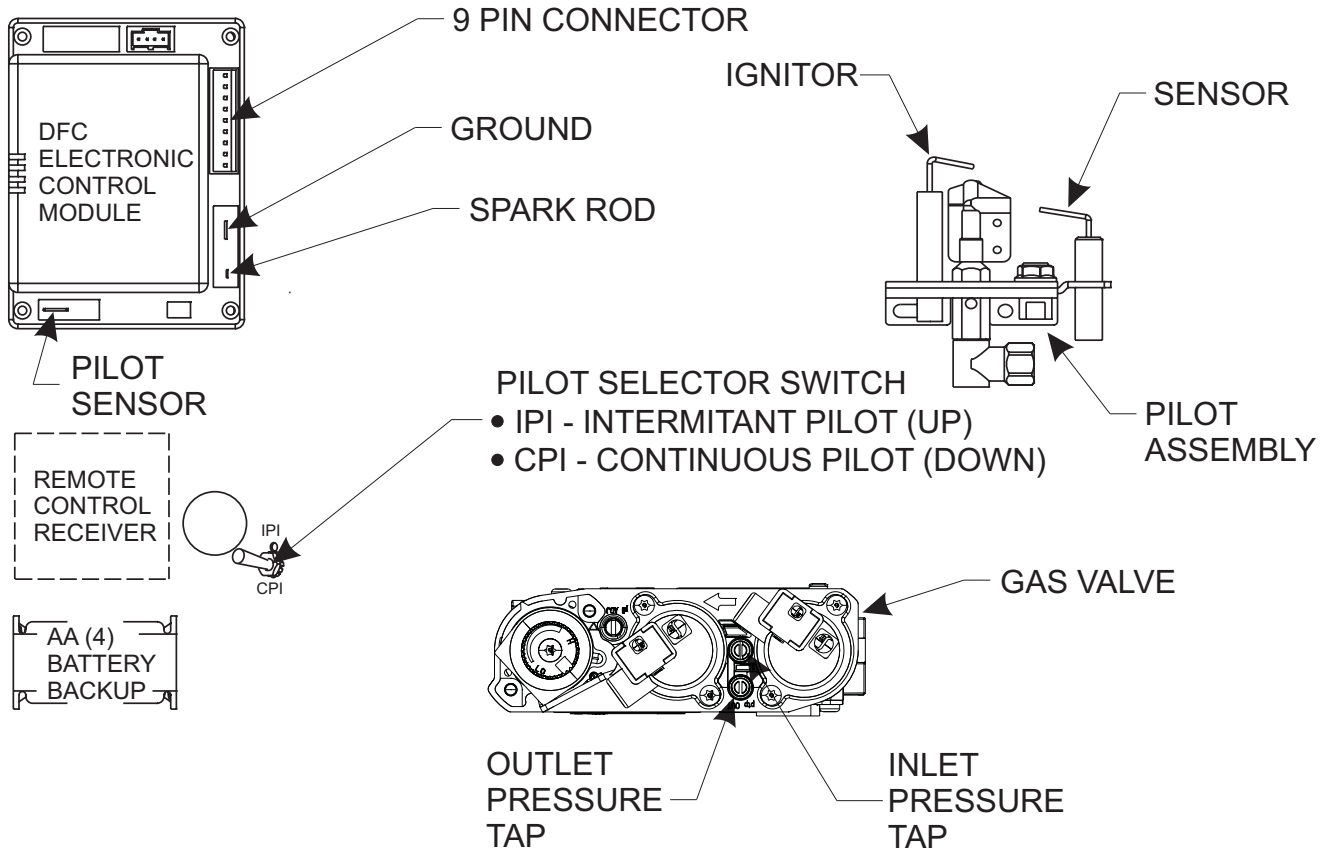

Figure 33
NOTE: A small toggle switch is located on a bracket that is used to switch from IPI (upward position) to the CPI (downward position). See **Figure 33**.
3. The gas valve has inlet and outlet pressure taps as shown in **Figure 33**. Refer to pages 18 and 19 for gas pressure requirements.
NOTE: The gas control has a manual HI/LO flame adjustment knob (regulator) that allows you to increase or decrease the height of the burner flame. See **Figure 33**. Rotate the HI/LO knob counterclockwise to "HI" to increase the flame height, and clockwise to "LO" to decrease the flame height.